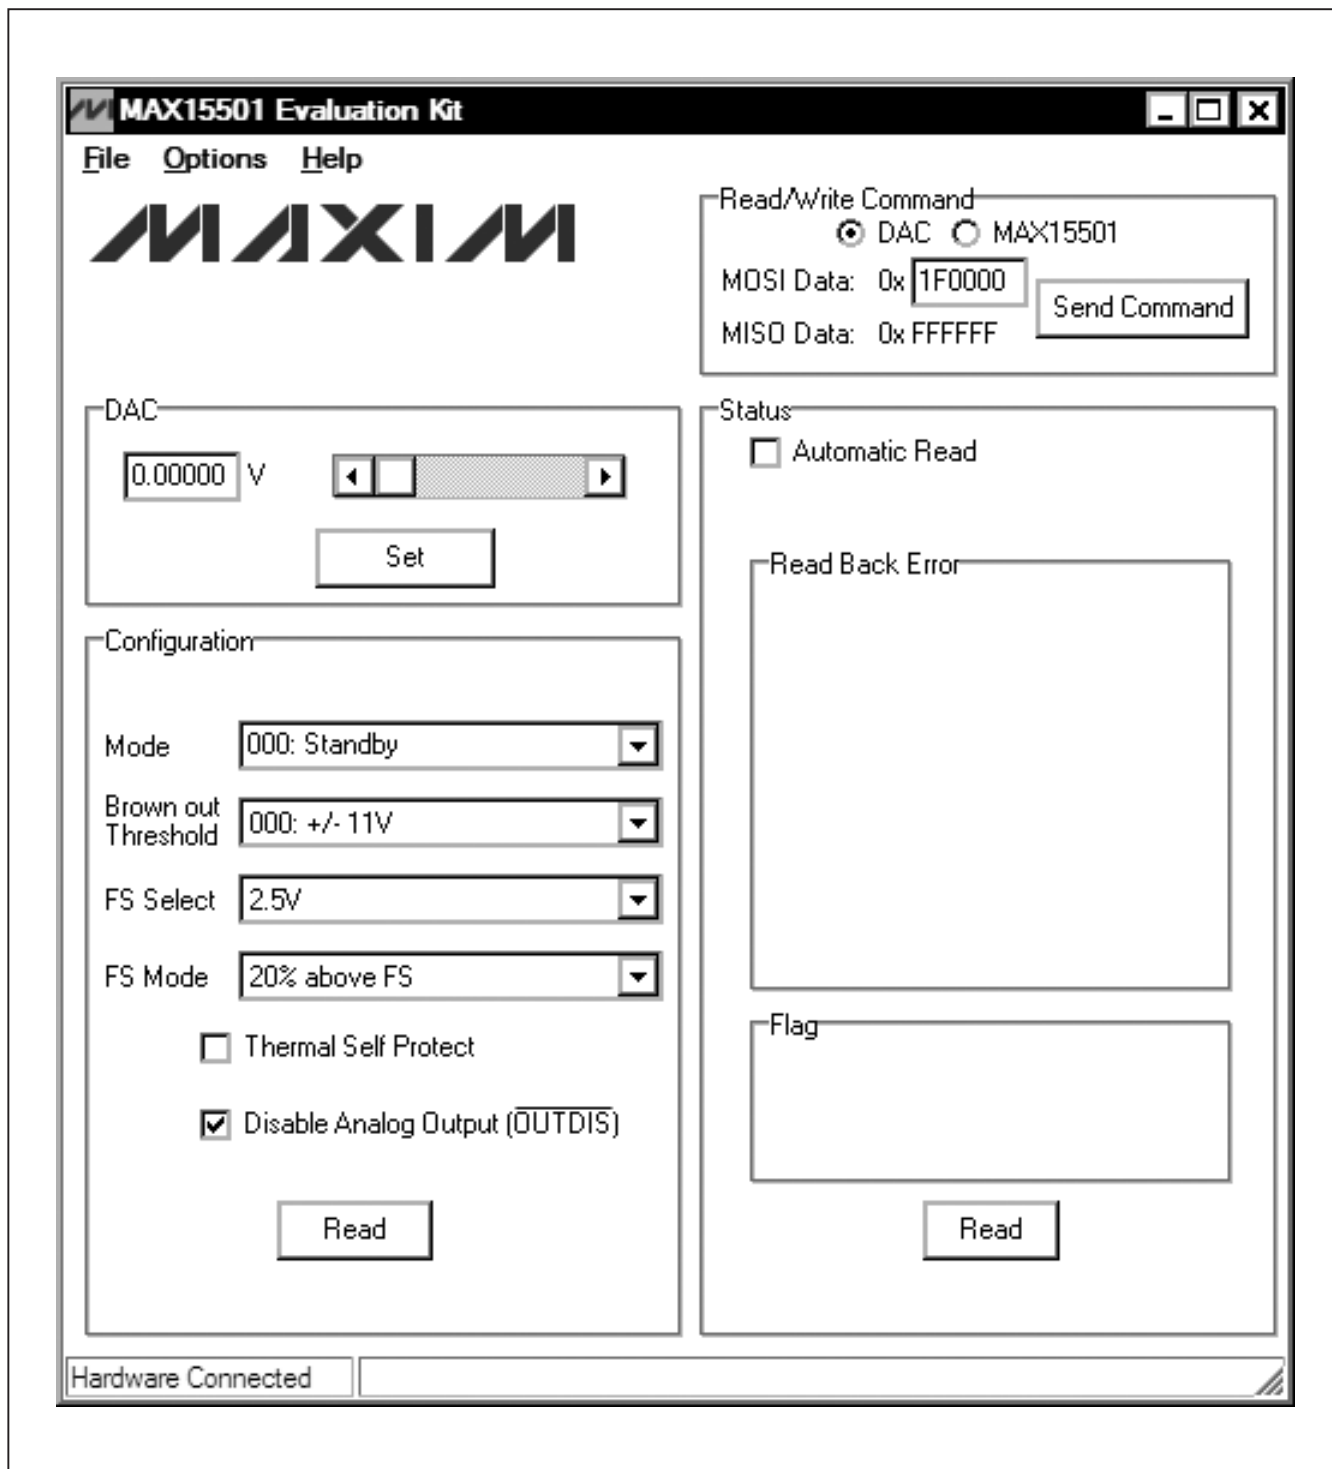

Figure 1. MAX15501 EV Kit Software Main Window
- 12) Start the MAX15501 EV kit software by opening its icon in the **Start | Programs** menu. The EV kit software main window appears, as shown in Figure 1.
- 13) Start the MAX15501 EV kit software by opening its icon in the **Start | Programs** menu. The EV kit software main window appears, as shown in Figure 1.
The main window of the evaluation software is shown in Figure 1. The software can be used to control both the on-board 16-bit DAC and the MAX15501.